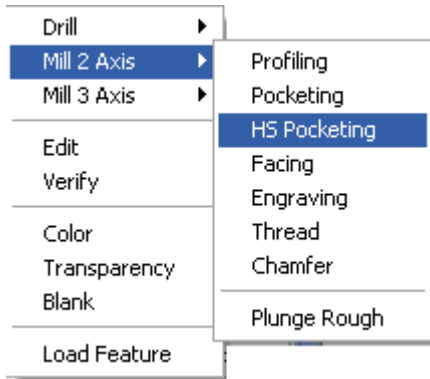
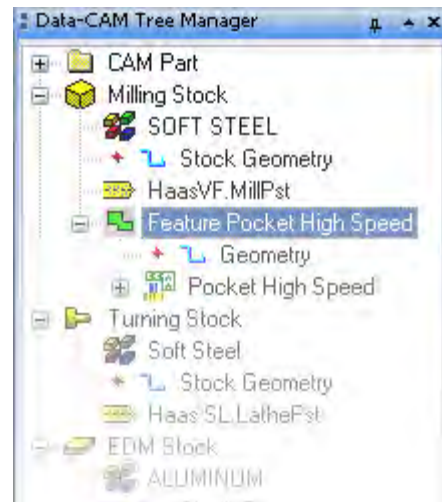

figure 3.1
figure 3.2
- Next right click on **Milling Stock** and select **Mill 2 Axis** then click on **HS Pocketing** (figure 3.1). Notice that a **HS Pocket** operation has been added to the **CAM tree** (figure 3.2).